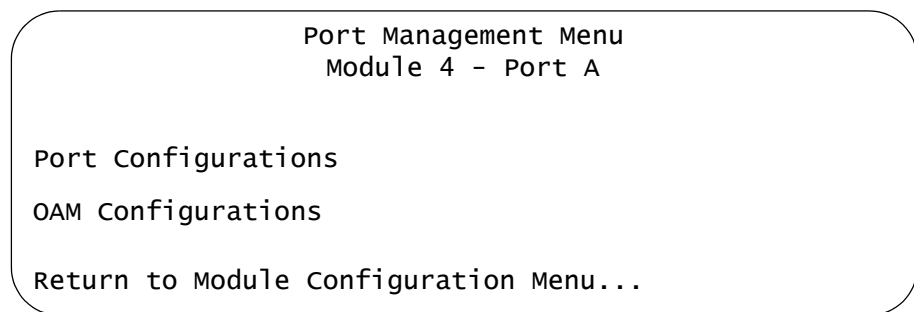

Figure 64. Port Management Menu
3. Select the port you want to configure. You can configure only one port at a time. This displays the Port Management Menu shown in Figure 64.